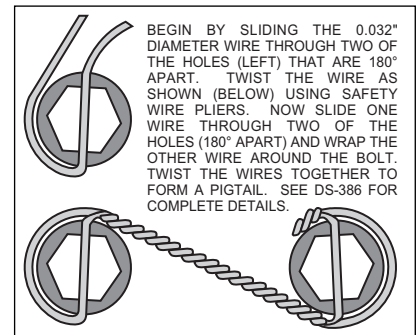

Figure 4. Safety Wire Diagram
•Slide the caliper mounting bracket kit assembly (1) onto the housing flange and then insert the axle assembly through the center hole of the caliper mounting bracket assembly (1) and secure using the stock Original Equipment Manufacturer (OEM) bolts and nuts. Stock OEM hex nuts that retain the caliper mounting bracket assembly (1) should be on the wheel side of the bracket. Apply red *Loctite*® 271 to the stock OEM bolt threads and torque to OEM specifications. Make sure the heads of the caliper mounting bracket assembly (1) insert nuts are FACING OUTWARD TOWARDS THE WHEEL.
•Bolt the hat (2) to the rotor (3) using washers (4) and bolts (5). Torque bolts (5) to 103 **in-lb**. Safety wire rotor bolts (5) using standard 0.032 inch diameter stainless steel safety wire as shown in Figure 4. Please refer to Wilwood's data sheet DS-386 (available at www.wilwood.com/pdf/ds386.pdf) for complete safety wire installation instructions.
•Align the correct hole pattern in the hat (2) with the stud pattern on the axle flange. **NOTE:** Some OEM and after market axles come with stud sizes larger than 0.50" diameter. Verify stud size and have a qualified machine shop drill the hats to the correct size. Slide the hat/rotor assembly (2 and 3) over the wheel studs covering the mounting bracket assembly (1) and against the axle flange face.